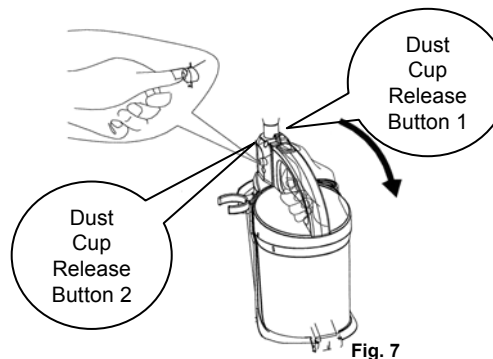

Fig. 7
- To remove the dust cup container, first press on the dust cup release button (1) that is located on the dust cup handle and at the same time press on the dust cup release button (2) that is on the side of the upper housing. (Fig. 7) Then pull the dust cup container out.